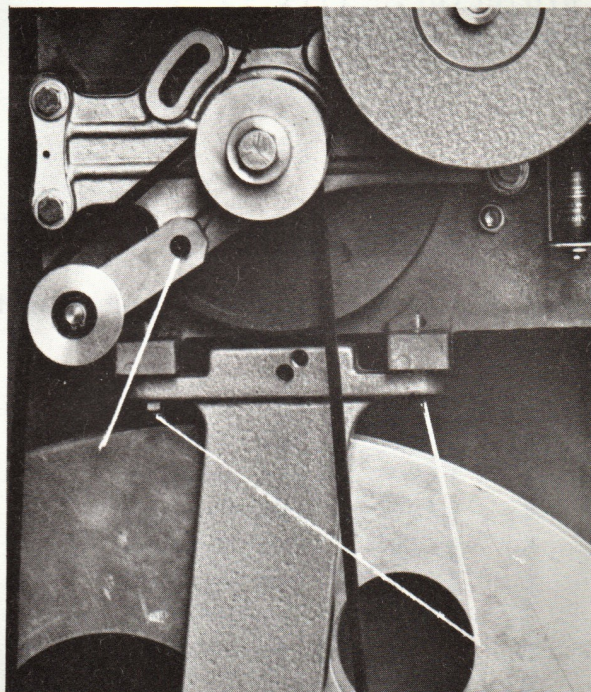

FIG. 5
4. Anchor lower take-up and take-up arm to bottom of Soundhead with 1/4" Allen Screws. (See Fig. 5)
6. Install take-up belt. (See Fig. 5)
7. Tighten take-up belt with idler pulley. (See Fig. 5)